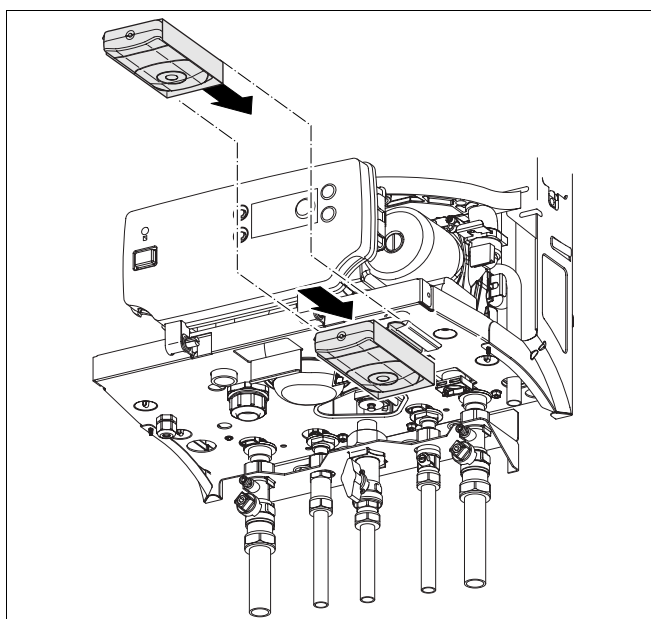

fig. 29 Place receiver
- Slide the receiver in the guide rails on the bottom part of the boiler (fig. 29).